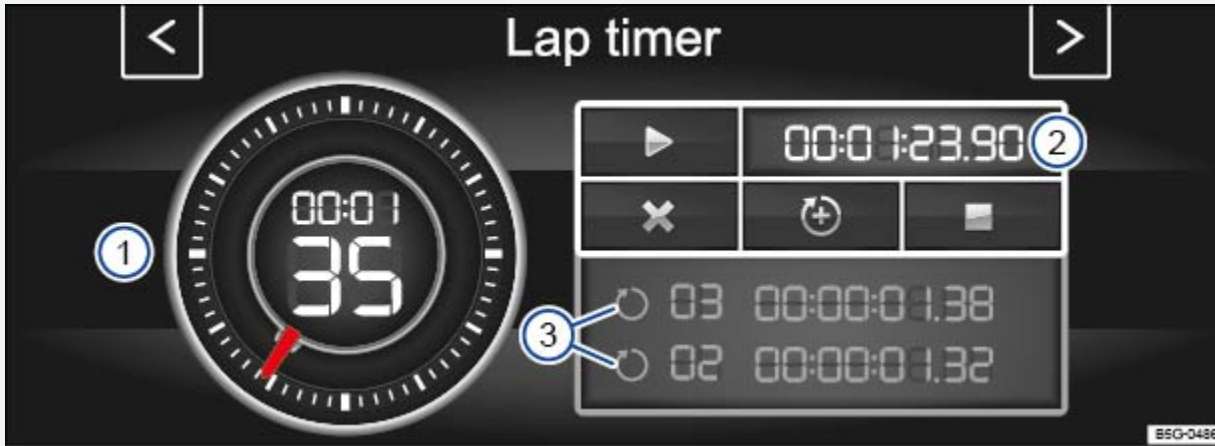

Fig. 189 In the Infotainment system: Performance Monitor lap timer/stopwatch.
Key to ⇒ Fig. 189 and ⇒ Fig. 190 :
The stopwatch has two different measuring functions. The stopwatch in the outer ring of the display (red needle) ⇒ Fig. 189 can measure up to 60 seconds. The digital display in the center of the stopwatch shows the elapsed hours, minutes, and seconds. The seconds appear as large numbers.
The digital display on the right side ⇒ Fig. 189 shows the current lap split time in 1/100 second intervals. If the lap timer is not being used to track split times, both digital displays show the same time.
Function	Action ⇒ Fig. 189 and ⇒ Fig. 190
<p>Show lap split times in the stopwatch display:</p>	<p>Tap button B ⑨.</p> <p>The split time is shown in the digital display in the center of the stopwatch ⇒ Fig. 189 ⑩ only.</p>